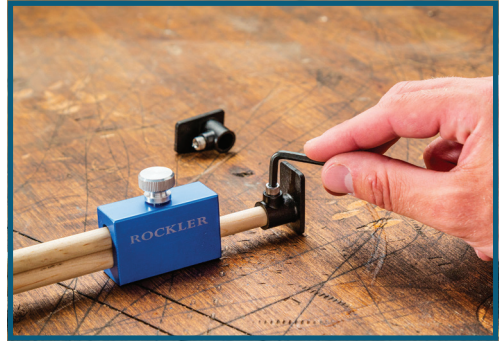

Fig. 2
2. Attach the tip you want to use and tighten the set screw with the 3.5mm hex wrench. **Fig. 2.**